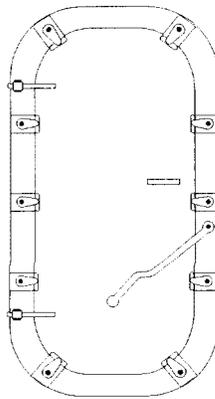

Figure 1-15. Glass-Reinforced Plastic Quick-Acting Watertight Door
- p. Glass-Reinforced Plastic Quick-Acting Watertight Doors. (See figure 1-15.) These glass-reinforced plastic (GRP) doors must meet all the requirements of a standard quick-acting watertight door. These doors are used primarily for minesweeping class ships to reduce magnetic signature.